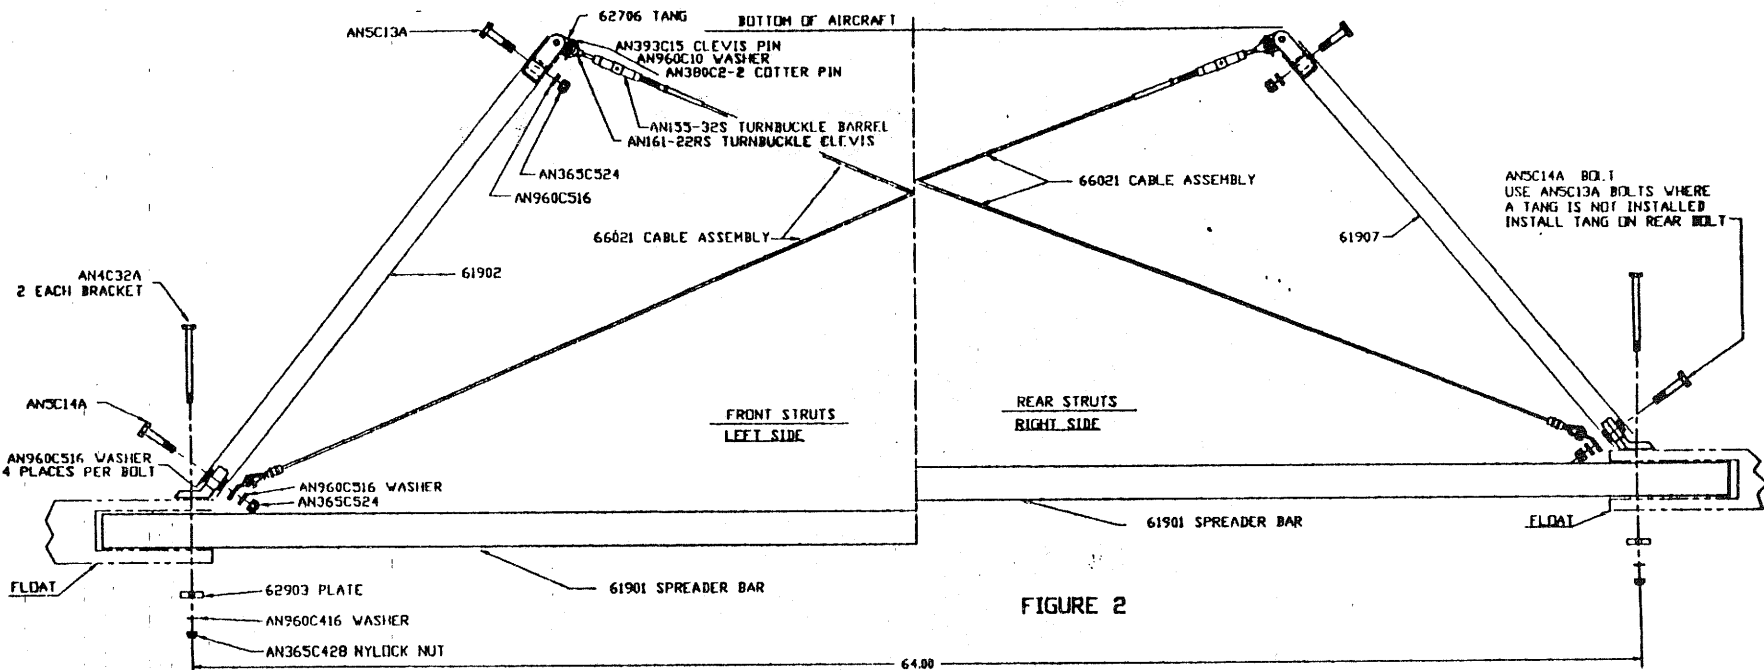

FIGURE 2
STEP (11): Install the proper #62903 1/4" aluminum plate inside the float under each bracket. Use an AN960C4 washer on each bolt and an AN365C428 Nylock nut. Torque these nuts to 90 inch pounds only. See Fig. 2.
STEP (13): Assemble these six tubes on the bottom float mount brackets using AN5 bolts just stuck in the holes. To secure them tape these bolts in place so they will not fall out. For final assembly, you will use two AN960C516 Washers on each side of the lower brackets as shims, between the brackets and the inside of each streamlined tube. You should insert these shims now as you locate the second bolt hole in each end of each tube. The best way to hold the washers in place while you slip the tubes over them is to tape the washers to the brackets with Scotch Tape. Then, just punch through the tape with the bolt. See Fig. 2.
STEP (24): Attach the floats to the aircraft with the fuselage brace in place if required. Attach the #62707 Tangs to the top brackets as shown in Fig. 2. Install the tangs under the head of each bolt for maximum strength. The left rear attach bolt should be inserted from the back to allow room for the rudder control cables. Install the longer AN5C14A Bolts in the rear holes of each lower bracket.